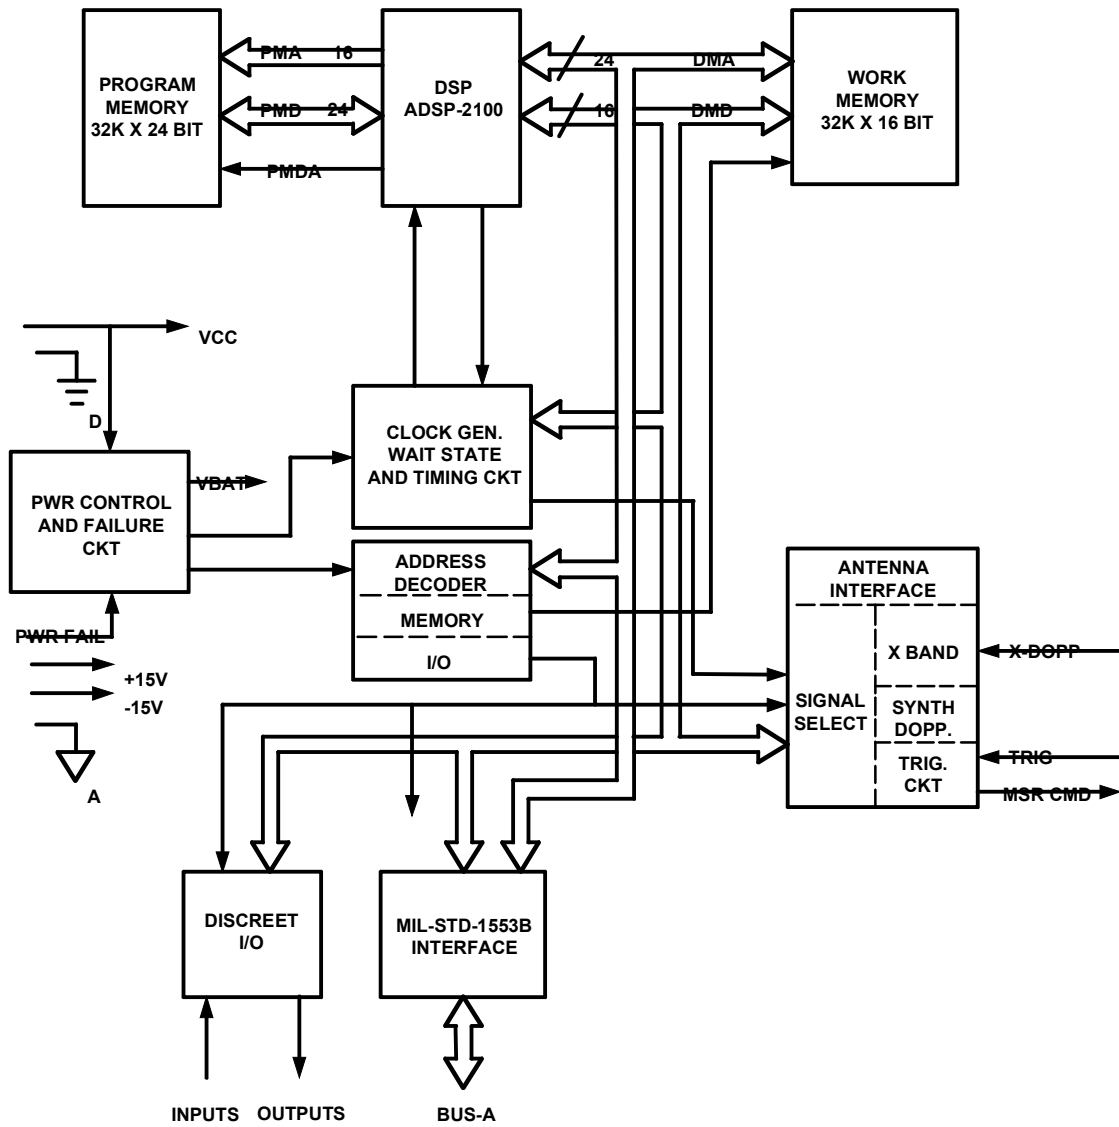

Figure 1-6. MVP Simplified Block Diagram
**1.19.5.1 ADSP-2100 DIGITAL SIGNAL PROCESSOR (DSP).** For the following description, refer to the block diagram in figure 1-6. The circuits and parameters are as follows: